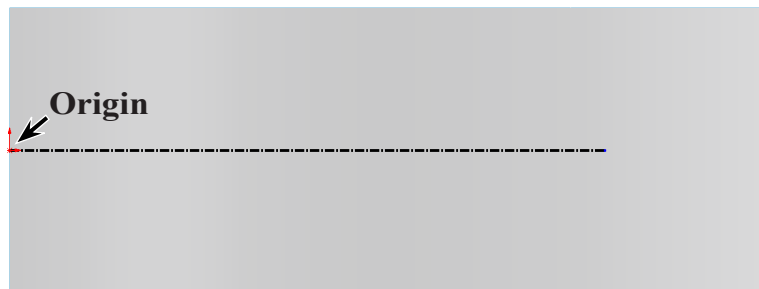

**Fig. 8**
Step 1. Click **Right Plane**  in the Feature Manager and click **Sketch**  on the context toolbar, **Fig. 8**.